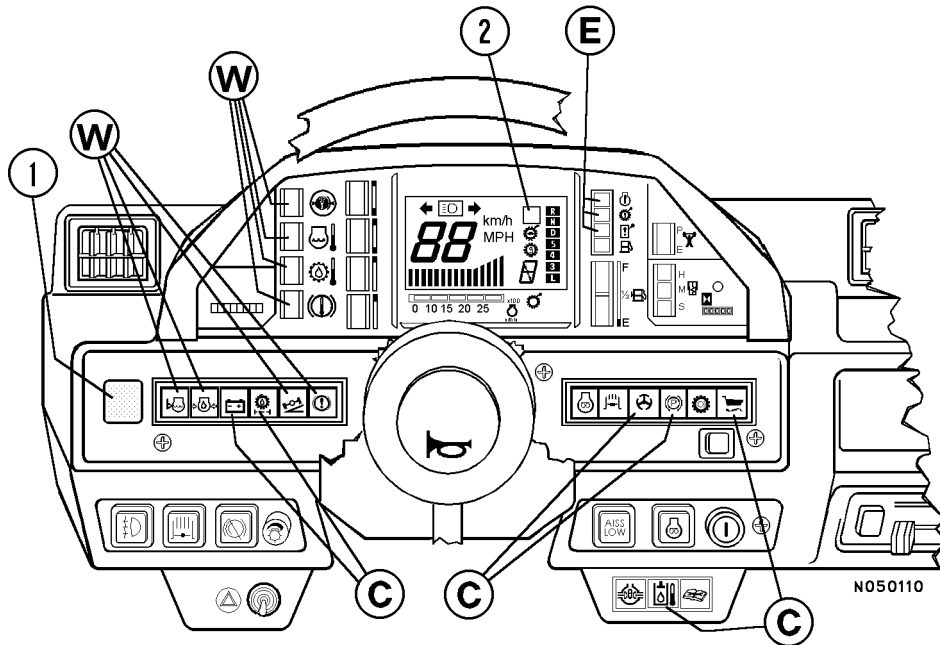

FIGURE 3-4. WARNING AND CAUTION LAMPS
1. The **Central Warning Lamp** is a Red lamp that will FLASH whenever any of the Monitor Lamps ("W", or "C", Figure 3-4) are illuminated, or if the Parking Brake is applied and the Transmission Shift Lever is not in the "N", (NEUTRAL) position. (Refer also to 54, Figure 3-6, later in this Section.)